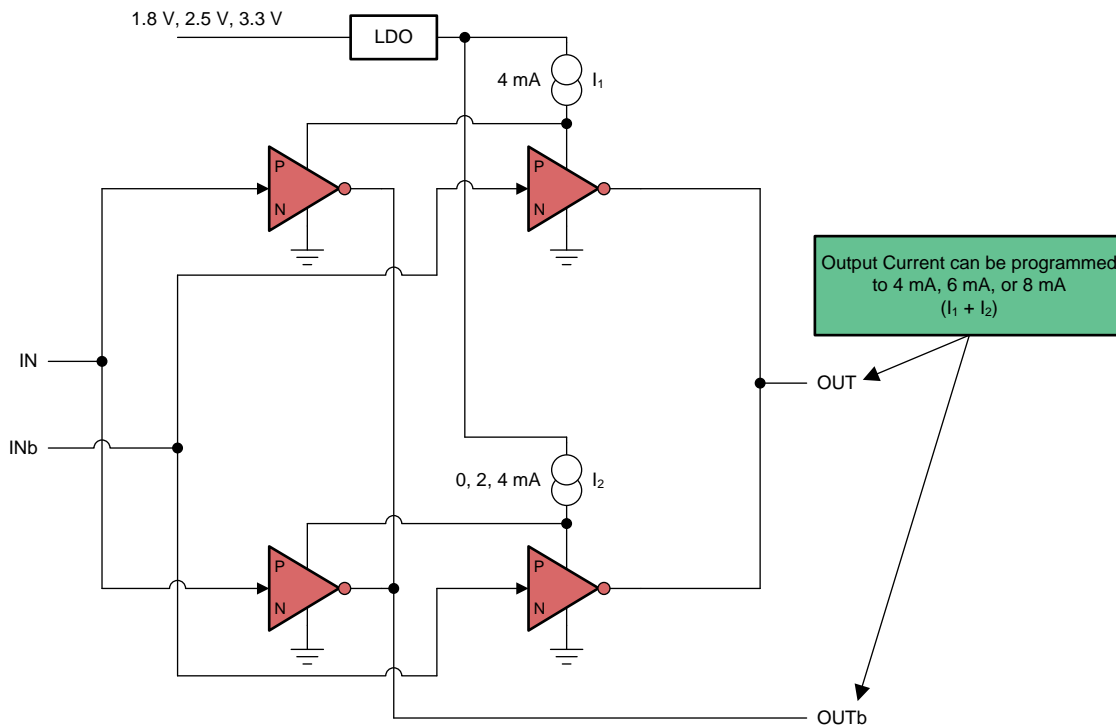

Figure 63. Structure of AC-LVDS, AC-CML, and AC-LVPECL Output Stage
The AC-LVDS, AC-CML, and AC-LVPECL output structure is given in Figure 63 where the tail currents can be programmed to either 4 mA, 6 mA, or 8 mA to generate output voltage swings that are compatible with LVDS, CML or LVPECL respectively. Since this output structure is GND referenced, the output supplies can be operated from 1.8 V, 2.5 V or 3.3 V and offer lower power dissipation compared to traditional LVDS, CML, or LVPECL structures without any impact on jitter performance or other AC or DC specifications. Interfacing to LVDS, CML or LVPECL receivers are done with just an external AC-coupling capacitor for each output. No source termination is needed since the on-chip termination is automatically enabled when selecting AC-LVDS, AC-CML, or AC-LVPECL for good impedance matching to 50 Ω interconnects.
3. The latency is deterministic and its variation is no more than 1 VCO clock cycle and an example scenario is illustrated in Figure 63.